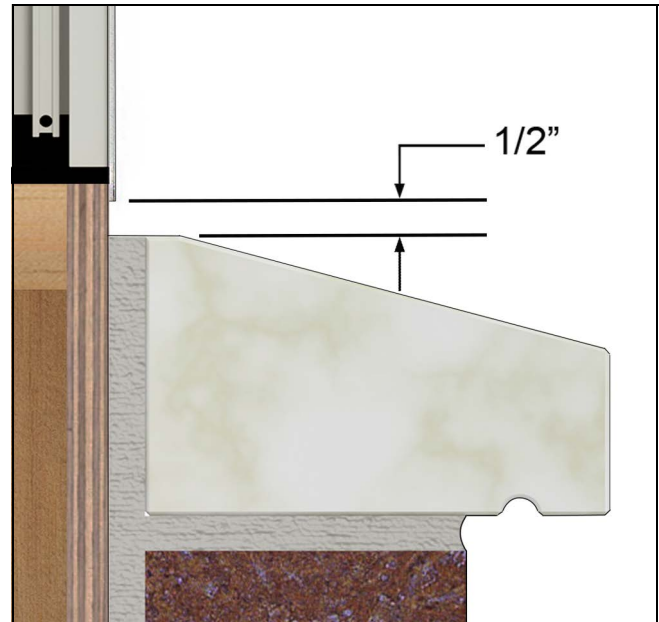

Figure 4
**4.** On installations with brick veneer (Masonry), verify there is at least 1/2" between bottom of window sill (or eventual placement of the window) and the top row of brick to avoid "brick bind". See Figure 4.